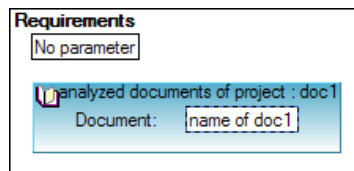

Figure 5-4. Inserted Name of Doc1 Element
16. Select the **doc1»Identification information»name** element and drag and drop the element to the right of the **Document:** text element as shown in Figure 5-4.